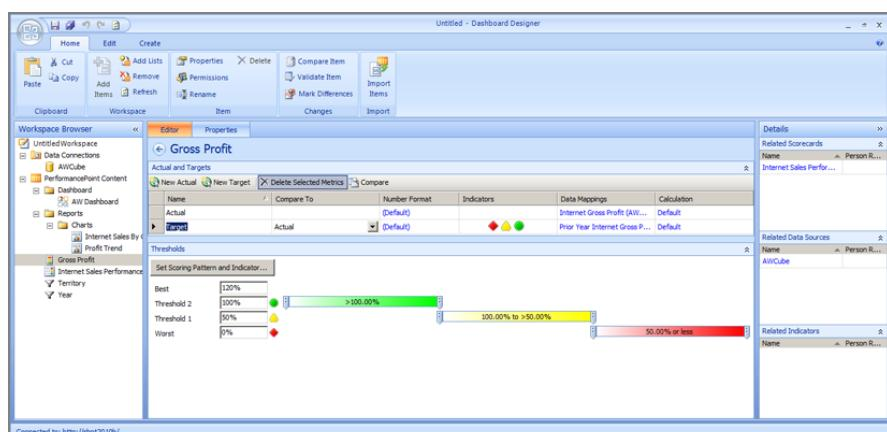

Figure 7-5
- **Indicators:** Indicators (see Figure 7-5) are visual representations of key performance indicators (KPIs). They are very similar to the indicators found within Reporting Services, discussed previously in Chapter 6.